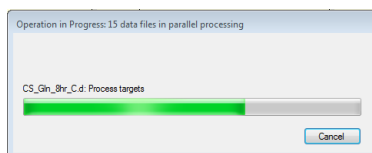
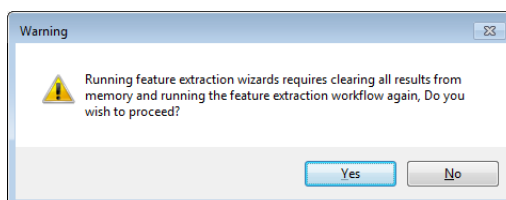

Figure 49 Operation in progress dialog box
Figure 52 Warning dialog box indicating that continuing the operation clears current results from Profinder memory
Click **Finish**. Isotopologue feature extraction, target metabolite mining, begins immediately and an operation progress dialog box is displayed (Figure 49).
- Click **Yes** in the **Warning** dialog box (Figure 52). Isotopologue feature extraction, target metabolite mining, begins immediately and an operation progress dialog box is displayed (Figure 49 on page 56)